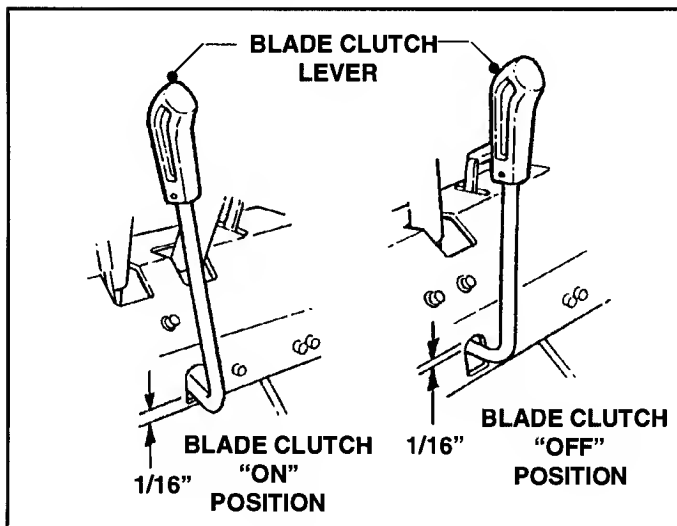

FIGURE 5.30
1. Check clearance between Blade Clutch Lever and Control Console with Blade Clutch Lever in the OFF and ON position. There should be a 1/16" minimum at bottom of slot (ON position) and top of slot (OFF position). Adjust Blade Clutch Lever if required. Refer to Section V, Page 5.7 of this Manual for procedure. See Figure 5.30.